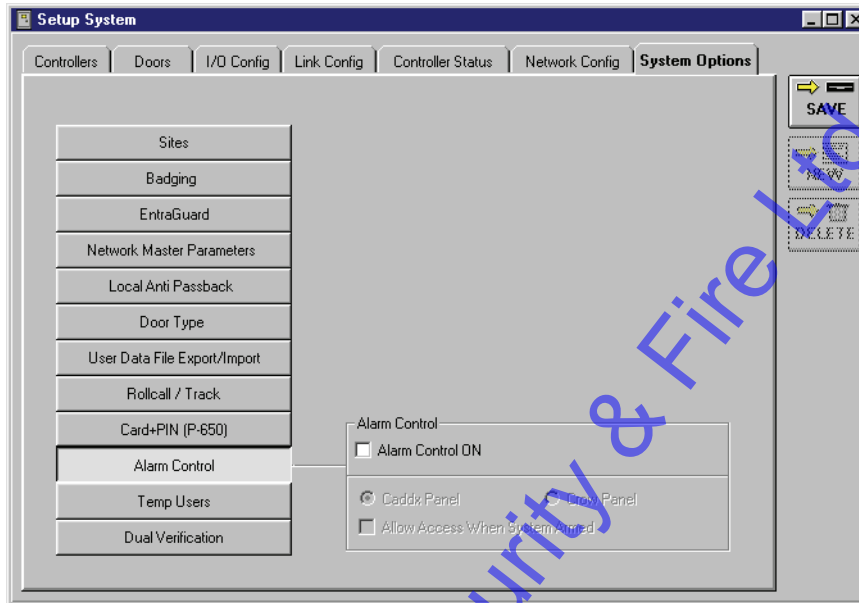

Figure 12-1: System Options Tab - Alarm Control Off
- To enable Alarm Control, click on the Setup ⇒ System pull-down menu or click the  button on the tool bar. Click on the **System Options** tab followed by the  button. The System Options window should look similar to Figure 12-1.